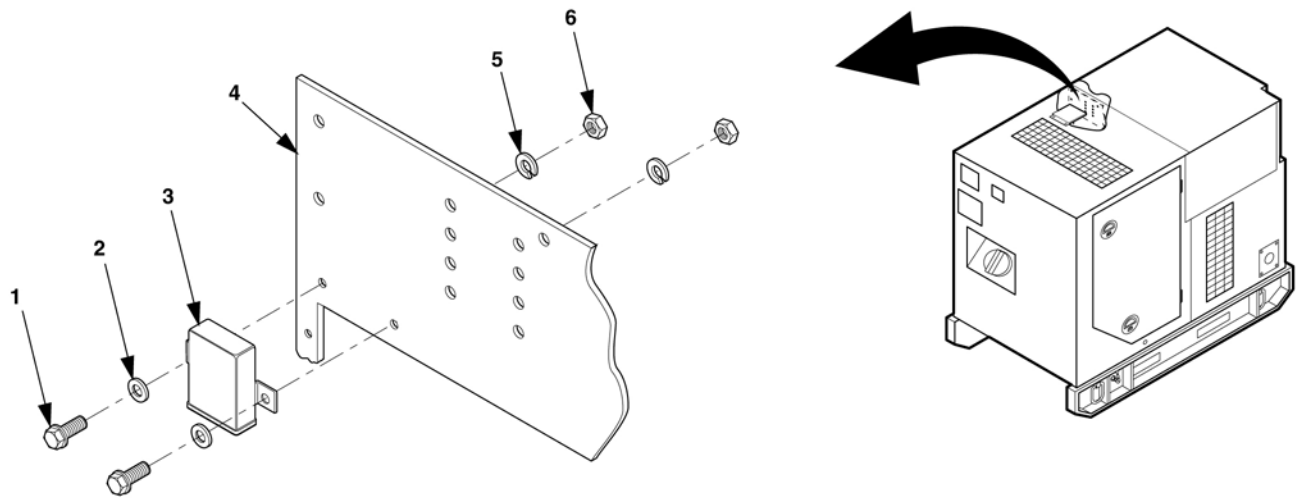

Figure 4-32. Control Unit Removal.
- 6. Remove control unit, (3), from center bulkhead housing (4) with screws (1), flat washers (2), lock washers (5) and nuts (6), Figure 4-32.